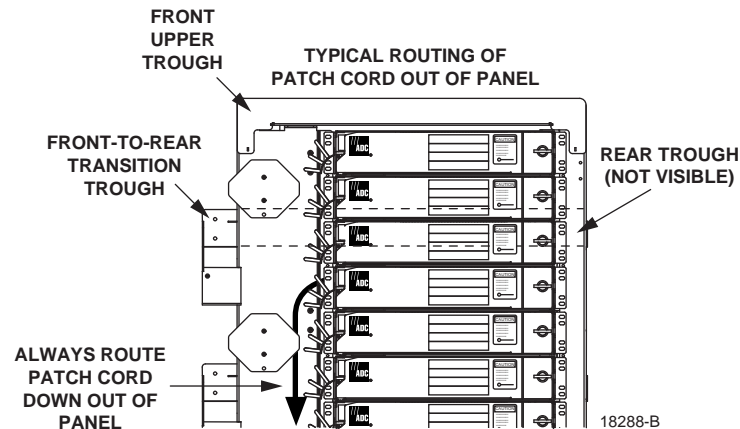

Figure 70. Patch Cord Routing From Panel
5. Route the patch cord out of the drawer and down along the front of the frame, as shown in Figure 70.